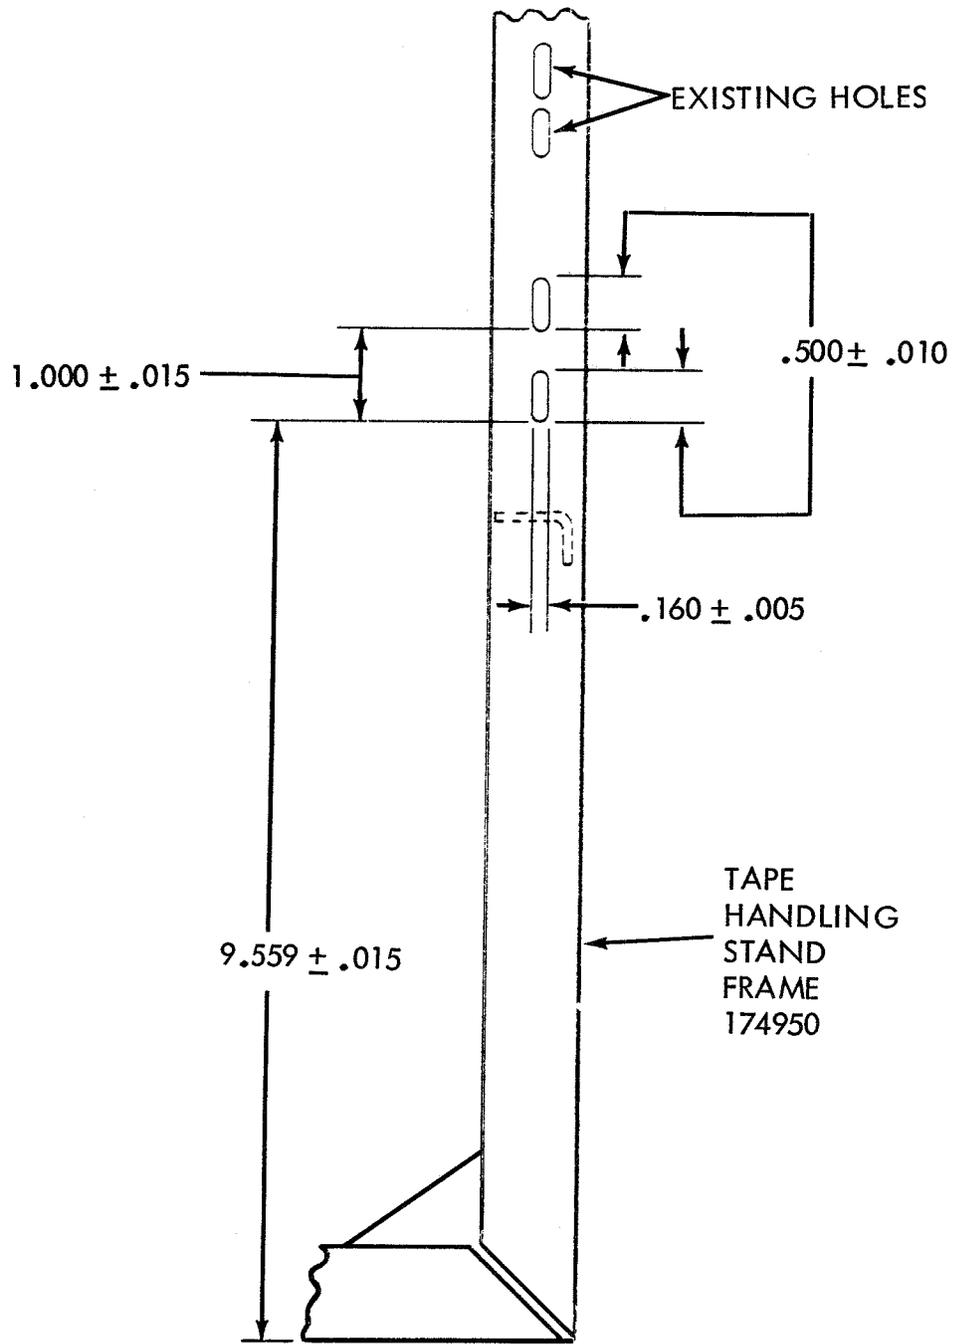

FIGURE 1
(1) Remove the existing 174572 Bracket and retain mounting hardware.
(2) Transfer the end of tape switch to the redesigned 174572 Bracket.
(3) Work over the 174950 Tape Handling Stand Frame by adding the two new mounting holes as per Figure 1.
(4) Assemble the late design 174572 Bracket to the 174950 Frame utilizing mounting hardware retained in Paragraph c.(1), above.